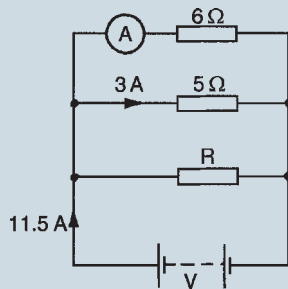

Figure 7.29
- For the circuit shown in Fig. 7.29 determine (a) the reading on the ammeter and (b) the value of resistor R .